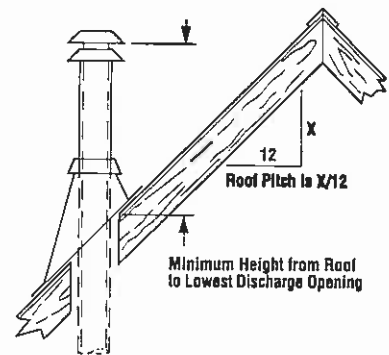

Figure 3
**Gas Vent Rule** – Gas vent caps are not permitted within 8 feet (2.4 m) of a vertical wall or similar obstruction. Gas vent caps that are located 8' or more from a portion of a building which extends at an angle greater than 45° upward from the horizontal may terminate in accordance with Table 1 (Figure 3), provided that in no case shall any discharge opening on the cap be less than 2' (610 mm) horizontally from the roof surface (National Fuel Gas Code ANSI Z223.1 (NFPA 54) 7.6.2) (CAN/CGA B149).